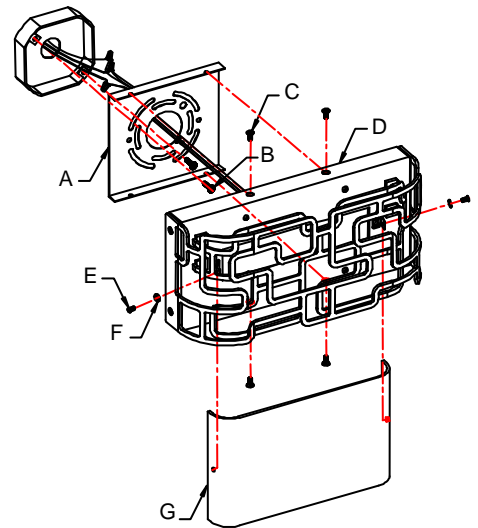

Fig. 2
CONNECTING THE WIRES (Fig. 2)
4. At this point, connect the electrical wires as shown in Fig. 2, making sure that all wire connectors are secured. If your outlet box has a ground wire (green or bare copper), connect the fixture's ground wire to it. Otherwise, connect the fixture's ground wire directly to the mounting plate using the green screw provided. After wires are connected, tuck them carefully inside the junction box.